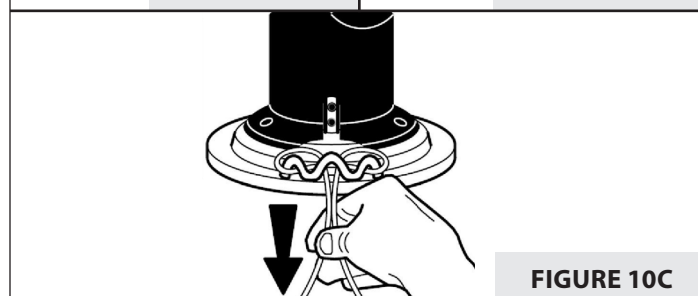

FIGURE 10C
5. Then, check to make sure that the ends of the line are even. **SEE FIGURE 10C.**